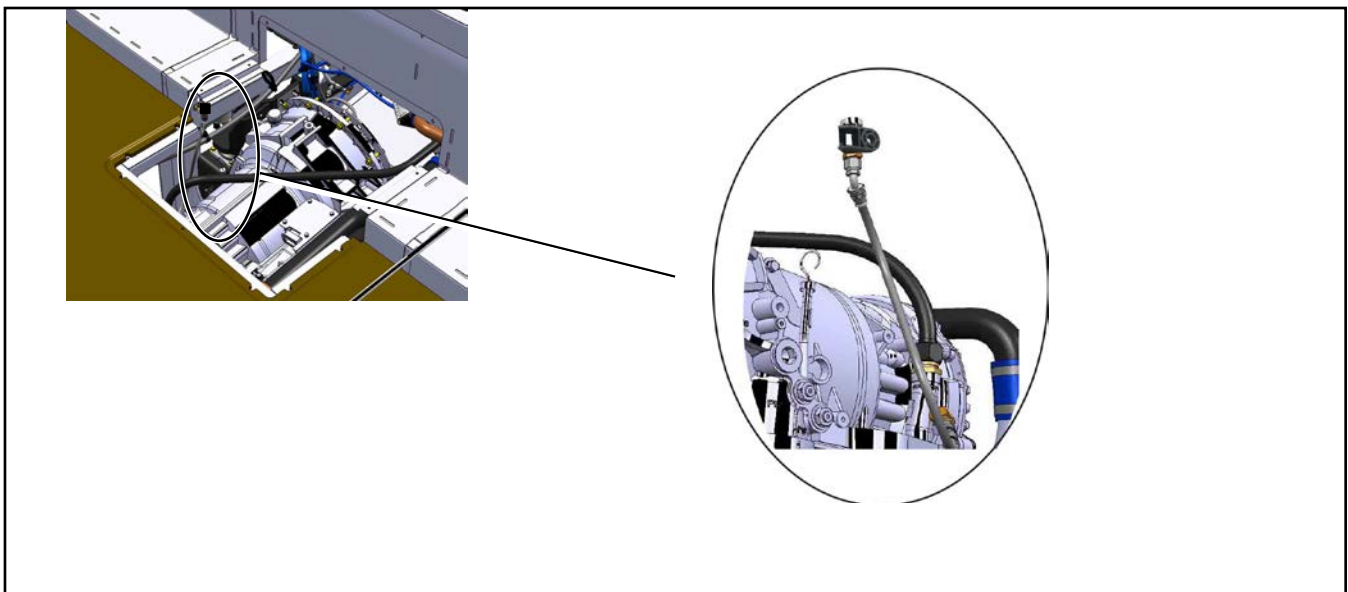

Figure 2 - Installed Transmission Breather Assembly
- 1.3. Locate and remove the installed transmission breather and support from the transmission. See Figure 2. Retain the breather, the breather connector and discard the other components.